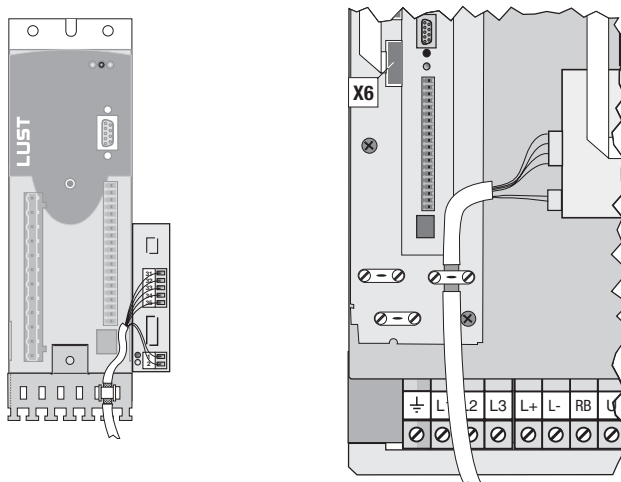

Fig. 5
2. Contact the cable shield as per Fig. 5.